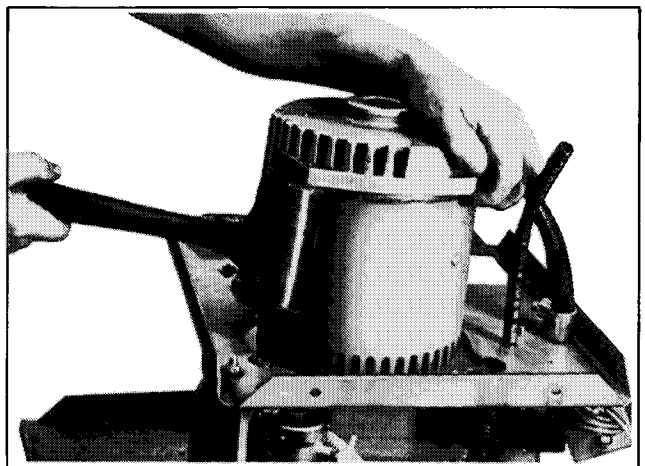

Figure 5-4. Bumping End Bracket
6. Bump end bracket loose. Figure 5-4. Pull leads through elbow.